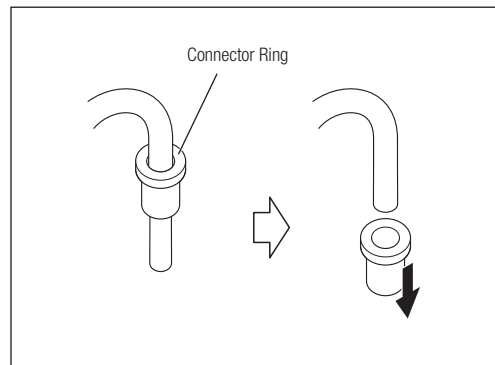

Fig. 51
- 4) Remove the Connector Ring from the Irrigation Tube. Do not dispose of it. You can use the Ring on the replacement Irrigation Pump (Fig. 51).